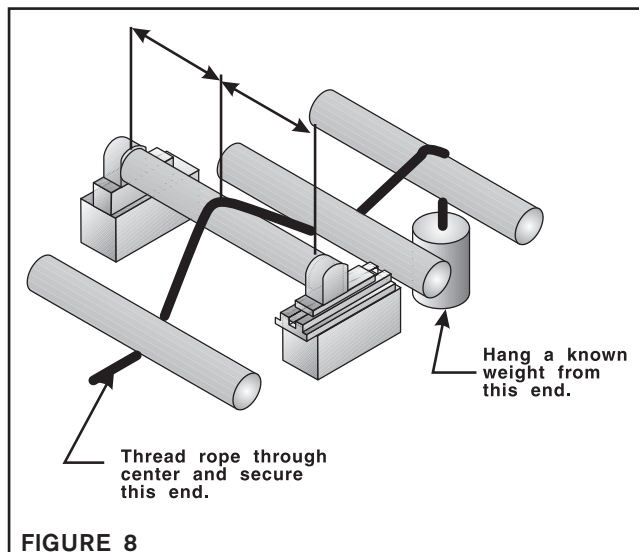

FIGURE 8
1. Thread a rope or narrow web over the Sensor Roll in the normal path. Be sure the rope or web is at the center of the Sensor roll; then, hang a known weight (within the range of the system) on one end of the rope or web (Example: Maximum Tension = 100 Lbs., hang a 50 Lb. weight) (See Figure 8).